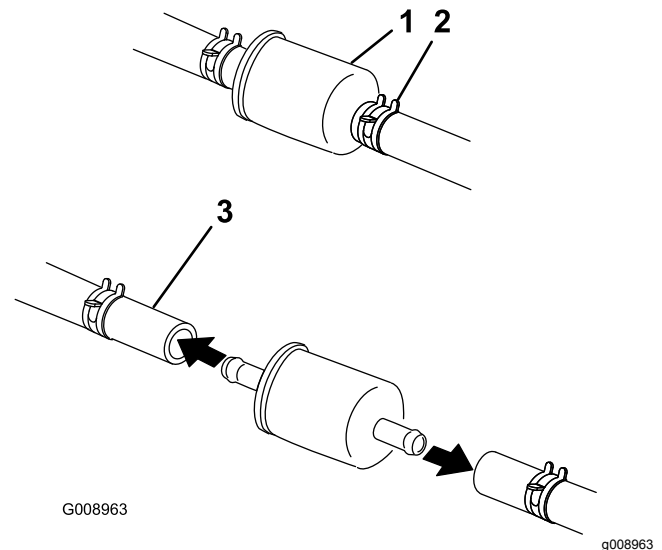

Figure 71
5. Replace the fuel filter (Figure 71).